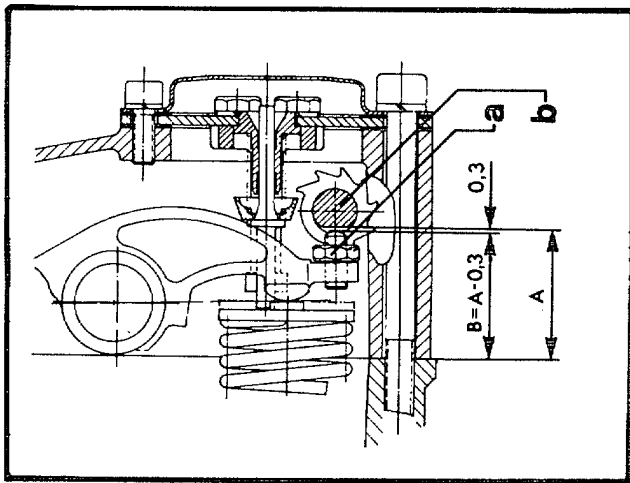

Figure 5-16. Engine Compression Adjustment Tolerances
- b. Check and record measurement "A" (see figure 5-16).